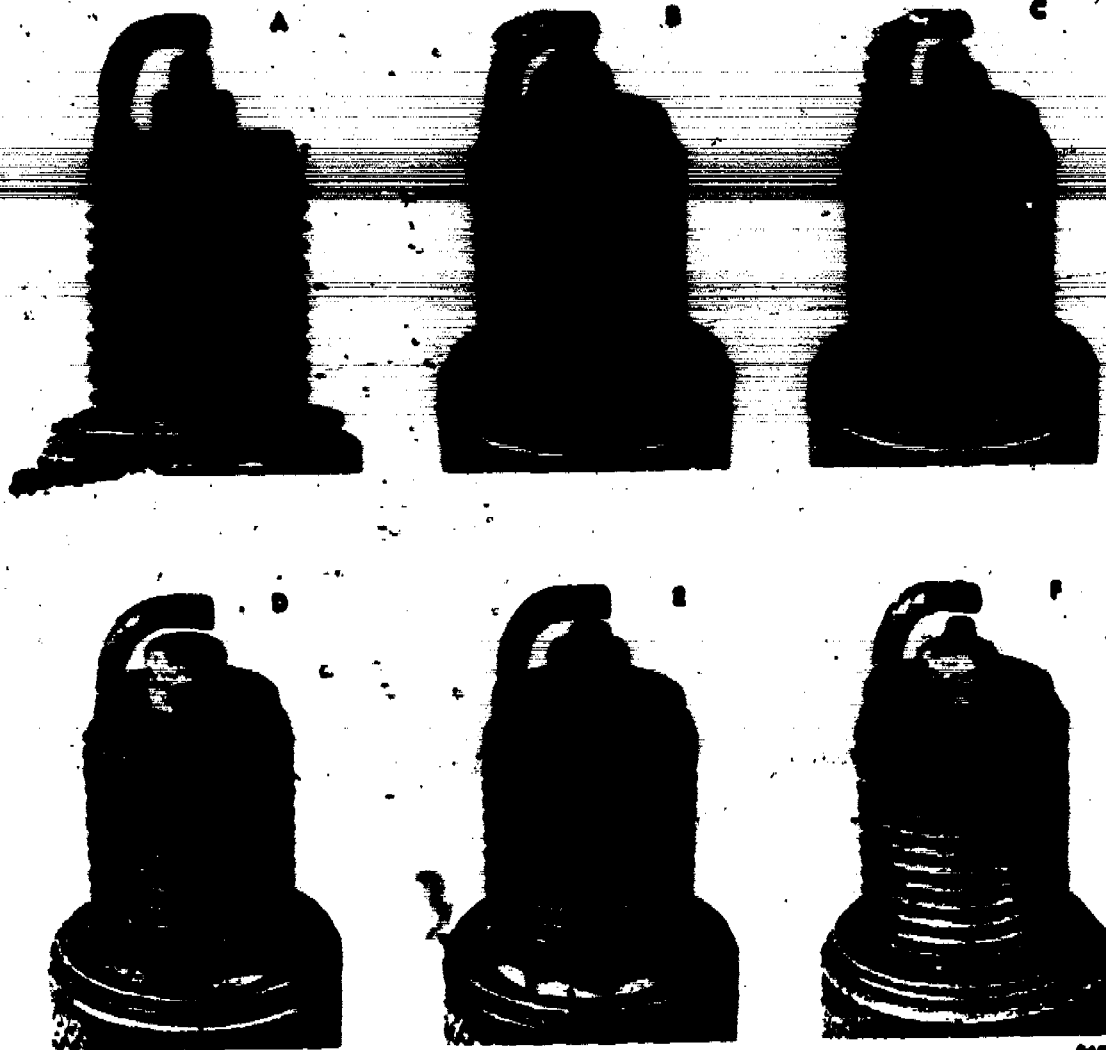

Figure 71. Spark Plug Conditions.
Gap Bridging. Gap bridging, figure 71(A), may be traced to flying deposits in the combustion chamber. In a few cases, fluffy deposits may accumulate on the plugs during intown driving. When the engine is suddenly put under load, this material can melt and bridge the gap.
Scavenger Deposits. Fuel scavenger deposits shown in figure 71(B) may be white or yellow in color. This may appear to be harmful, but this is a normal appearance with certain brand fuels. Such materials are designed to change the chemical nature of deposits to lesson misfire tendencies. Notice that accumulation on the ground electrode and shell areas may be unusually heavy, but the material is easily cleaned off. Such plugs are normal in condition and can be cleaned with standard procedures.
Chipped Insulator. This condition is shown in figure 71(C). It usually results from bending the center electrode during regapping of the plug. Under certain conditions, severe detonation can also split the insulator firing end. The plug must be replaced.
Preignition Damage. Preignition damage, figure 71(D) is caused by excessive temperatures. They produce melting of the center electrode and, somewhat later, the ground electrode. Insulators will appear relatively clean of deposits. Check for correct plug heat range, over-advanced ignition timing and similar reasons for overheating.
Cold Fouling. Cold fouling, or carbon fouling, figure 71(E), shows dry, black appearance of one or two plugs in a set. Check for sticking valves or bad ignition leads. Fouling of the entire set may be caused by a clogged air cleaner, a sticking exhaust manifold heat valve, or a faulty choke.
Overheating. Overheating, figure 71(F), is indicated by a dead white or grey insulator which appears "blistered." Electrode gap wear rate will be considerably in excess of 0.001" per 1,000 miles. This may suggest that a cooler heat range should be used. However, over-advanced ignition timing, detonation and cooling system stoppages can also overheat the correct spark plug.